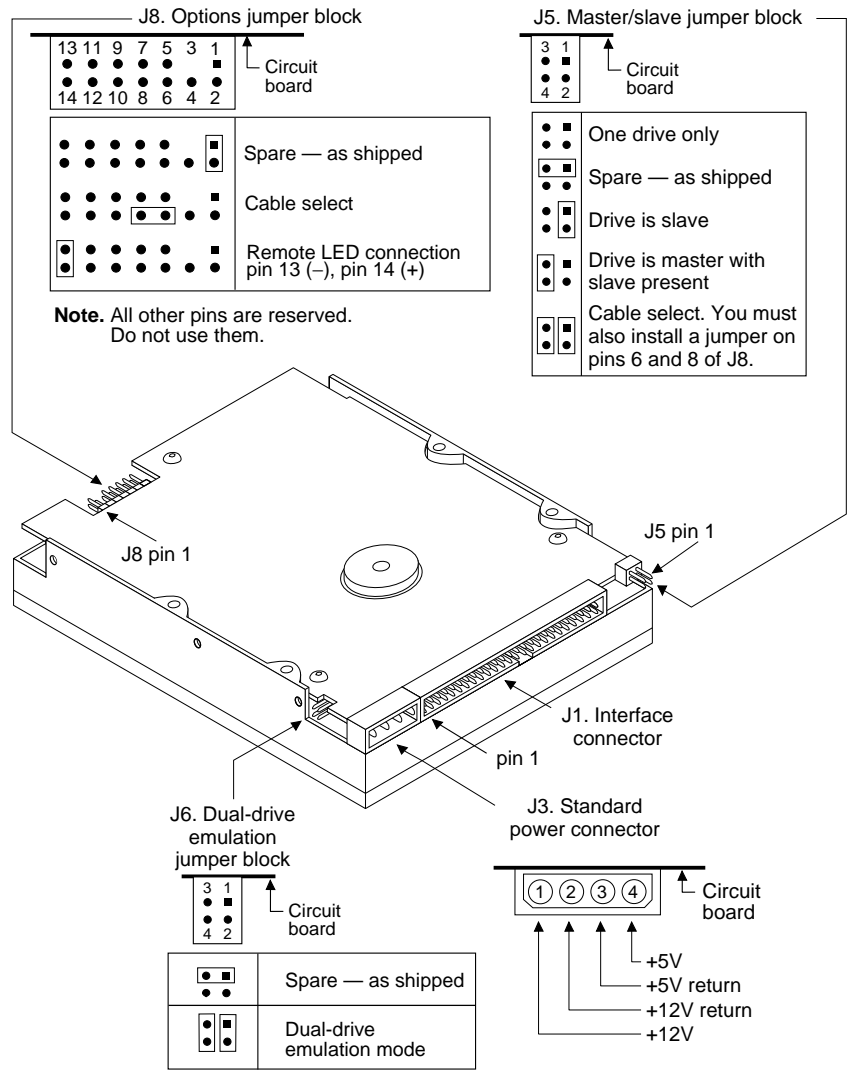

Figure 3. Configuration jumpers
You can connect two drives to a daisy-chain cable if both drives meet the same interface specifications. In a dual-drive configuration, one drive is designated as the master (drive 0) and the other as the slave (drive 1). See Figure 3 on page 18 for jumper settings.
The jumper blocks use 0.1-inch configuration jumpers. Use Seagate part number 10562-001 or an equivalent. You may use the spare jumpers shipped with the drive on any jumper block. The positions of these jumpers are shown in Figure 3 on page 18.
- Install jumpers on pins 1 and 2 and pins 3 and 4 of the master/slave jumper block J5 and on pins 6 and 8 of the options jumper block J8. These jumper blocks are shown in Figure 3 on page 18.